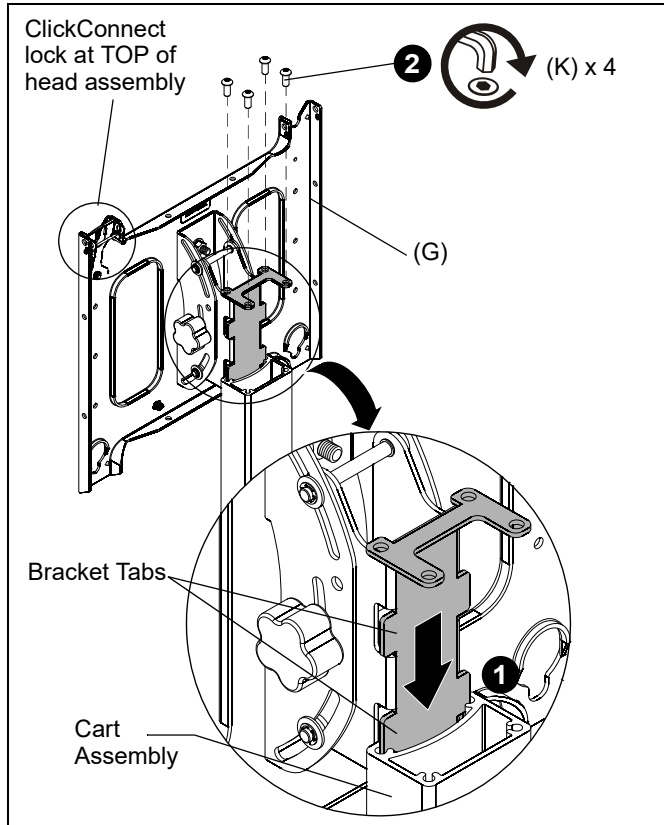

Figure 5
IMPORTANT ! : When attaching head assembly ensure that the ClickConnect lock is at TOP of head assembly, and bracket tabs slide into the stand assembly. (See Figure 5)
1. Slide head assembly (G) into the stand assembly. (See Figure 5)
2. Attach head assembly (G) to the cart assembly using four 5/16-18 x 1/2" button head cap screws (K). (See Figure 5)